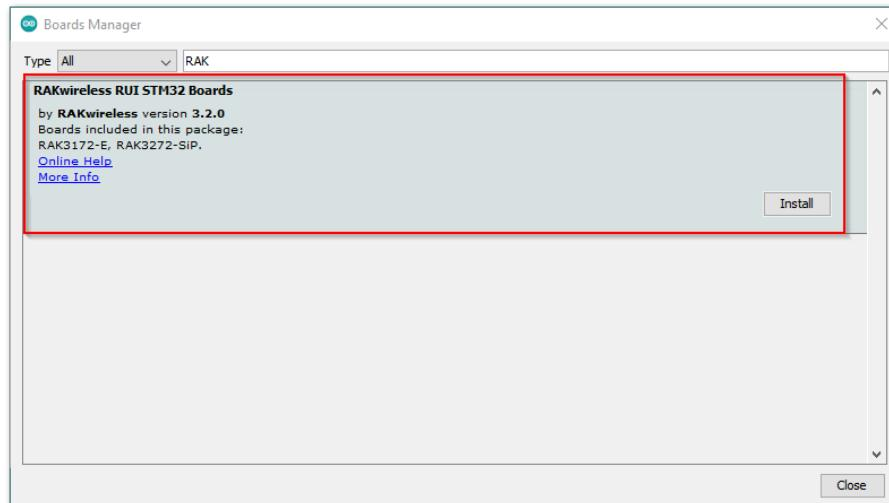

Figure 8: Installing RAKwireless RUI STM32 boards
6. Write **RAK** in the search bar, as shown in **Figure 8**. This will show the available RAKwireless module boards that you can add to your Arduino Board list. Select and install the latest version of the **RAKwireless RUI STM32 Boards**.